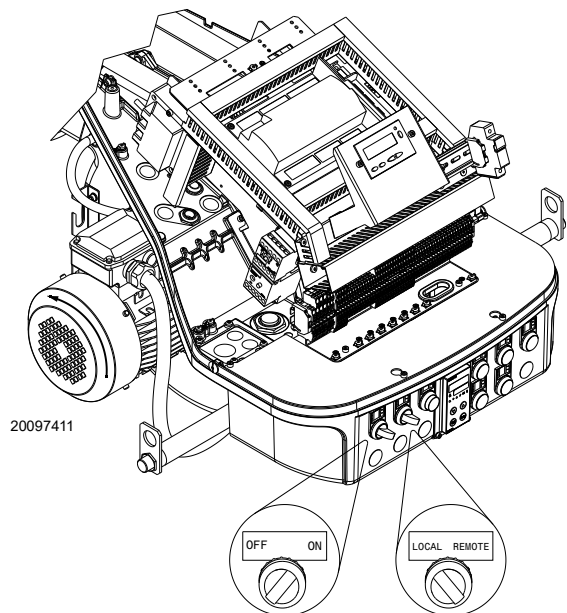

Fig. 36
Close the thermostats/pressure switches, set the parameters on the RWF 55 regulator. Please refer to the specific manual for this operation. Turn the switch of Fig. 36 to position “ON” and turn the switch of Fig. 36 to position “LOCAL”.
Make sure that the lamps or testers connected to the solenoids, or indicator lights on the solenoids themselves, show that no voltage is present. If voltage is present, stop the burner **immediately** and check the electrical wiring. When the burner starts, check the direction of the motor rotation, as indicated in Fig. 36.
- place the switch of Fig. 36 in position “0” and wait for the flame control to carry out the switch-off phase;